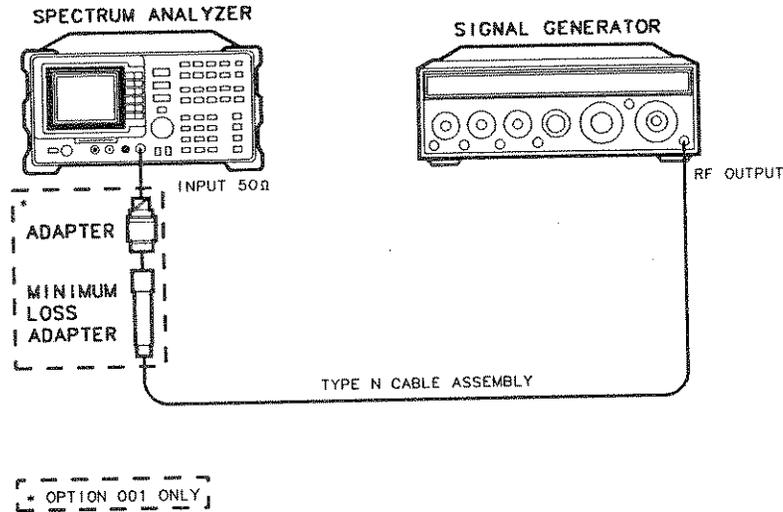

Figure 3-4. Residual FM Test Setup
1. Connect the equipment as shown in Figure 3-4.